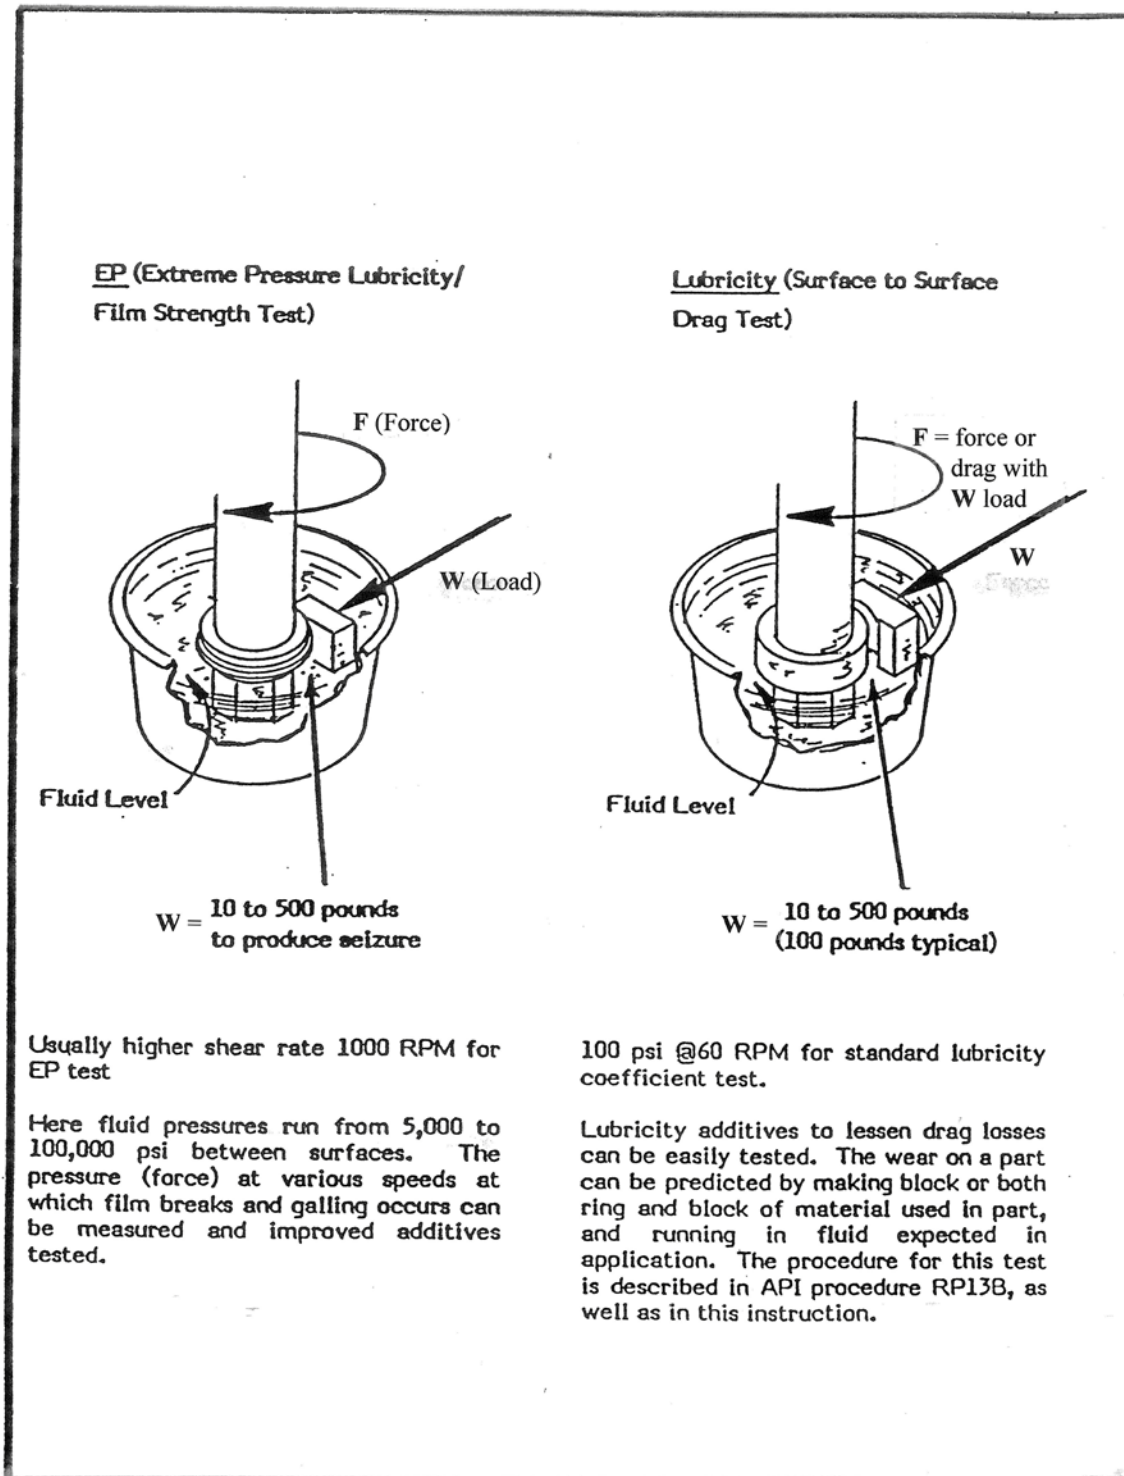

Figure 1 - Comparison of EP and Lubricity Test
The EP tests (Fig. 1) are performed by applying a measured torque with a torque arm to a torque-sensitive, rotating bearing cup. This provides a means of testing lubrication under extreme pressure conditions and produces an indication of the film strength of the fluid being tested. The problem of reduction of friction between the drill string and the borehole requires a different simulation. The more common lubricity test (Fig. 1) measures fluid resistance (lubricating character) between two hardened steel moving surfaces at 100 pounds force (which translates into a 5,000 to 10,000 psi (34,470 to 68,940 kPa) pressure on the intermediate fluid film). During the lubricity test, a steel block is pressed against a rotating steel ring. Load in inch-pounds (in-lb) is read directly from the dial on the torque arm.
against the test ring through the torque arm. The force F required to slide the block and ring surfaces across each other at a given rate is measured by the power required to turn the test ring at a prescribed number of revolutions per minute. The coefficient of friction, $\mu = F/W$. Refer to Figure 1.
There are different types of test blocks and rings for EP tests and for lubricity tests. The rectangular blocks are used for EP tests. The blocks used for lubricity tests have a rounded inset surface. See Figures 1, 4, and 5.
- 5.3.1.2 Install test ring squarely onto tapered portion of shaft. Then, using wrench, secure with test ring retainer nut. Engage shaft lock plunger in hole in shaft to prevent shaft rotation while retainer nut is tightened. (Refer to Fig. 1) Take care not to contaminate outside of test ring. Contamination by skin oil can cause inaccurate test results.
- 5.3.1.8 Fill stainless steel sample cup with distilled water. Place on cup stand, and raise cup stand so that test ring, test block, and block holder are immersed in fluid. Tighten thumb screw. (Refer to Fig. 1)